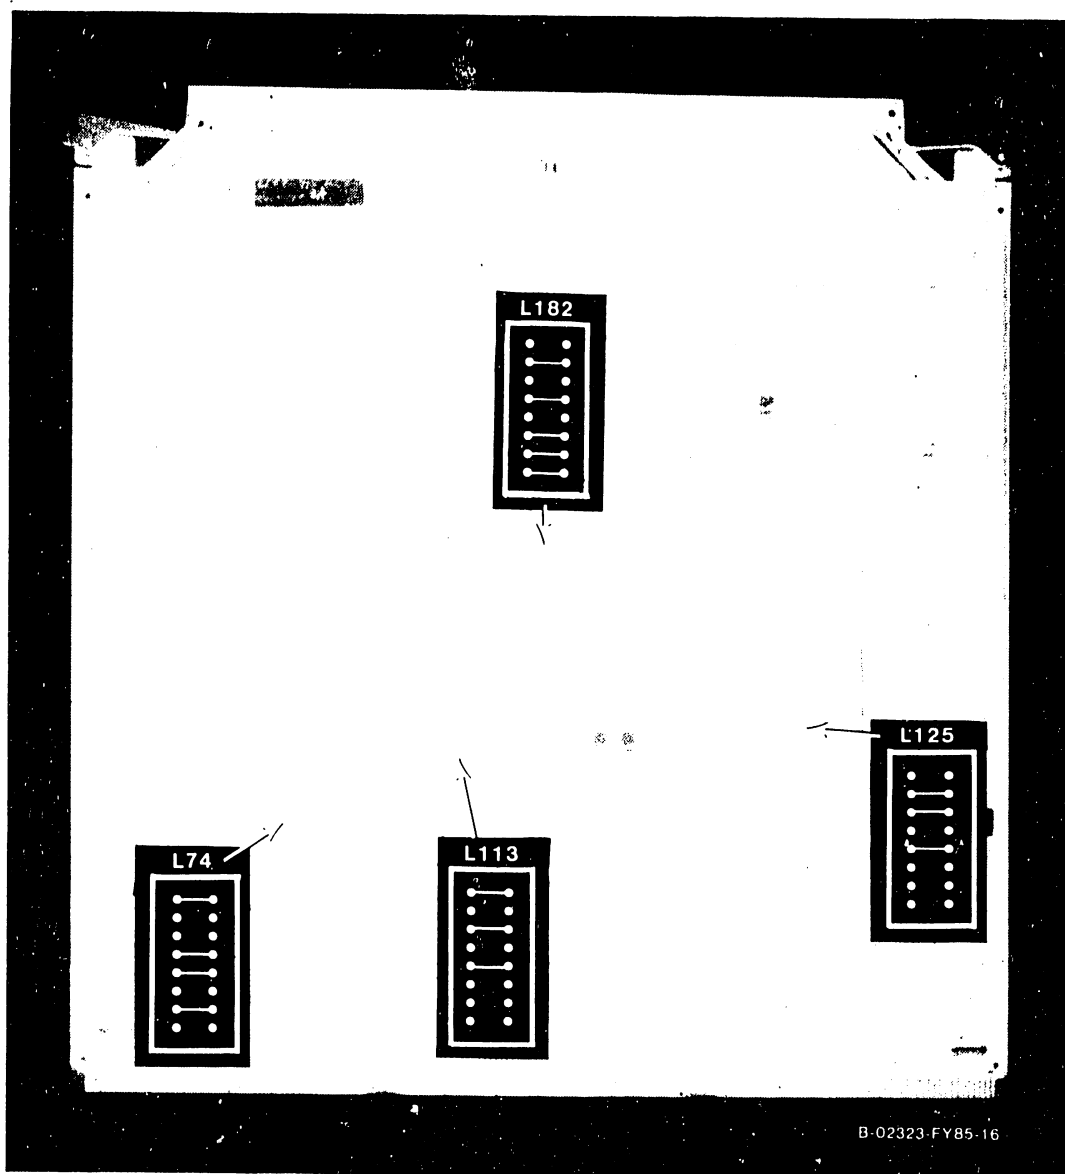

Figure 5-21. 210-8836 System Bus Interface
1. Remove the System Bus Interface(s) (SBI) (figure 5-21) from SBI backplane slot(s) #0 or #1 in the manner described in 5.3.2.4.1.
2. After checking the I/O Clock Speed jumpers at L125, I/O Data Speed jumpers at L182, SBI Identification jumpers at L74, and the SPB (Support Packet Bus) Target ID jumpers at L113 (figure 5-21), install the new SBI.